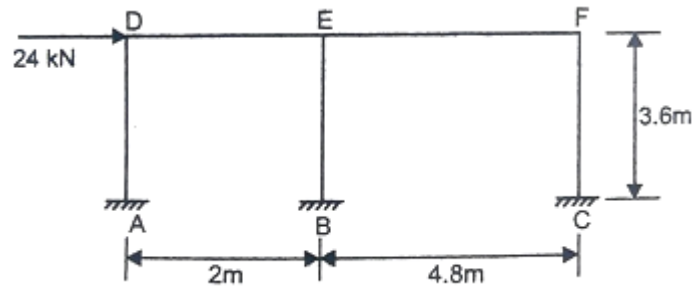

Figure 2.6
7. Use portal method, analyze the building frame subjected to horizontal force (due to wind) as shown in Figure 2.6. Draw the bending moment diagram.